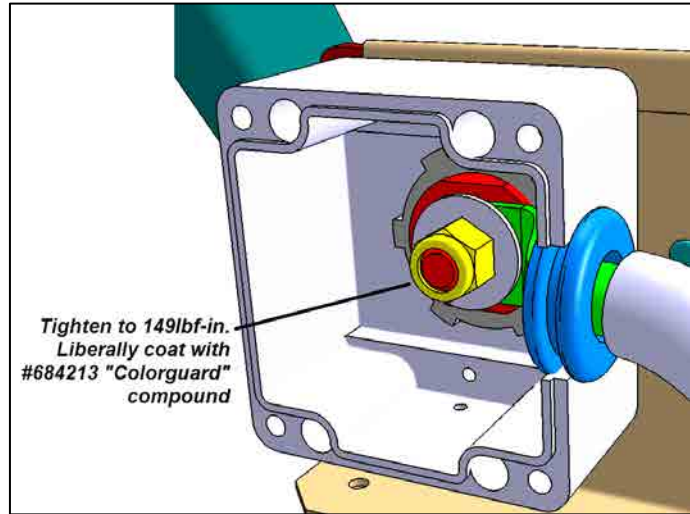

Figure 8
21. Install grommet ⑦ #504671 onto protective box side. (Fig. 8)
22. Pass cable ring terminal through grommet ⑦.